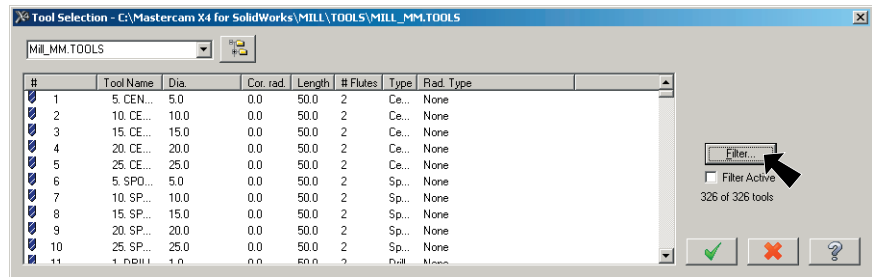

Fig. 11
Step 13. Click the **Filter** button, **Fig. 11**.